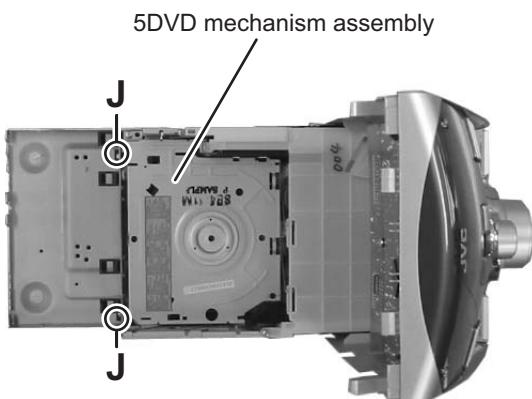

Fig.9
- (2) From the top side of the main body, remove the two screws **J** from the main body. (See Fig.9)